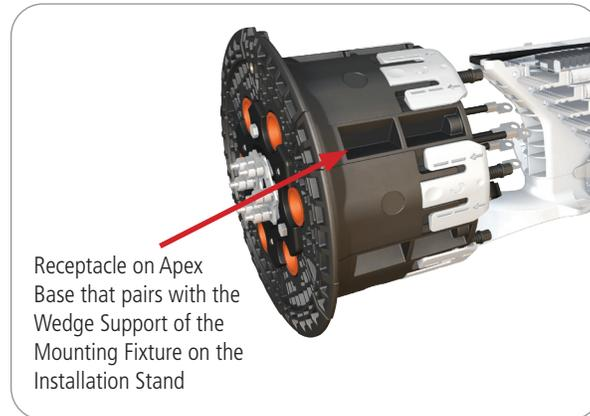

Figure 9 – Receptacles on Apex Base for Wedge Support
- As needed during preparation, the Apex closure can be re-positioned on the Slotted Wedge Support in any one of the six receptacles on the closure base to allow better access to each cable port and sealing wedge during the Cable Attachment Unit (CAU) mounting process (**Figure 9**).